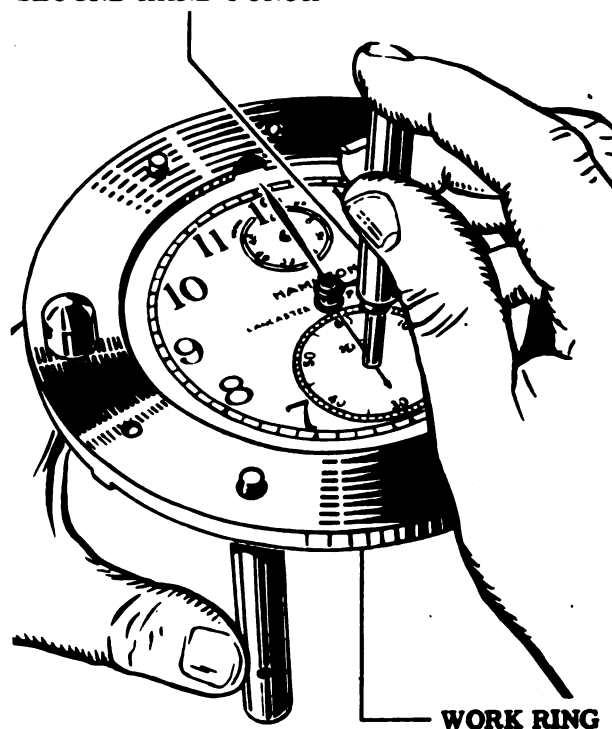

Figure 93
99. Turn the movement over. Holding the balance wheel lightly with the finger so it does not oscillate, and using small punch, Tool No. 38, install the second hand so it is positioned exactly in line with one of the second markers. See Fig. 93. If new second hand is used, it may be necessary to broach, using Tool No. 82. If necessary, use second hand closer, Tool No. 105. Do not force the hand tightly into place until after Operation 100.